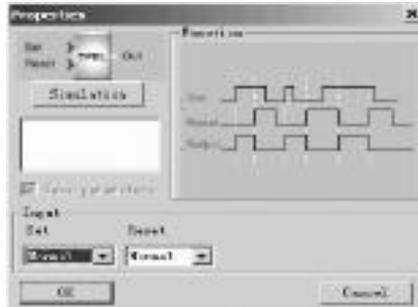

Fig 4.8 Dialog Box of Property setup
2. When the mouse be moved to input & output port, the shape of the mouse is “+”. This means you can press the left button of the mouse to confirm one dot of the link. At that time press left button of the mouse once and move it to the output port (input port) of the next module. System could set up link automatically, as shown in Fig. 4.8: